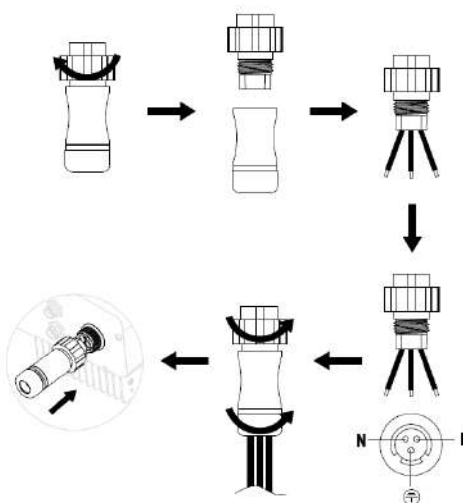

Figure 4.10 AC connection of single-phase inverter
- (1) Before connecting the single-phase AC grid cable to the inverter, take lightning and short circuit protection measures in accordance with the local electrical safety codes;
- (2) As shown in Figure 4.10, connect and fasten L, N and PE conductors of the single-phase AC grid to AC terminal and tighten to 0.5 Nm. Assemble the AC terminal and tighten to 2.5-3 Nm, then connect the terminal to the AC port of the inverter.
- (3) Connect the DC output cable of the PV module to the DC connector which provided by our company, and then connect the DC connector to the DC terminal of the inverter.